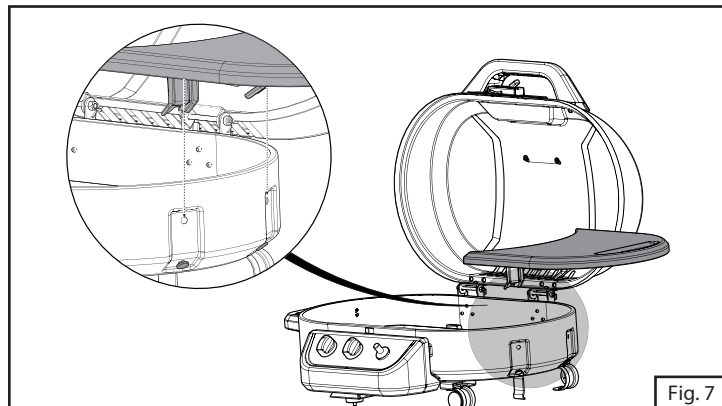

Fig. 7
5. Align and slide the side table onto the pre-assembled support pins at the right side of the grill. (Fig. 7)